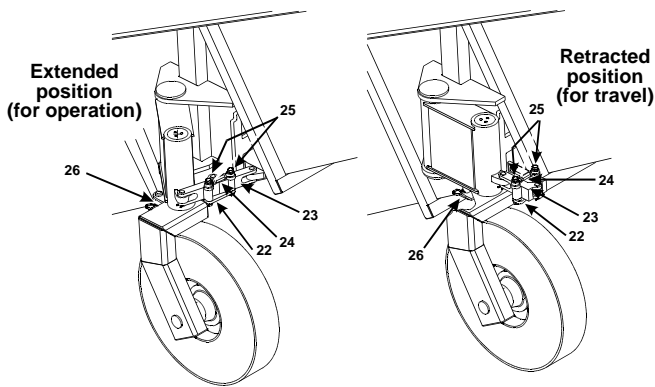
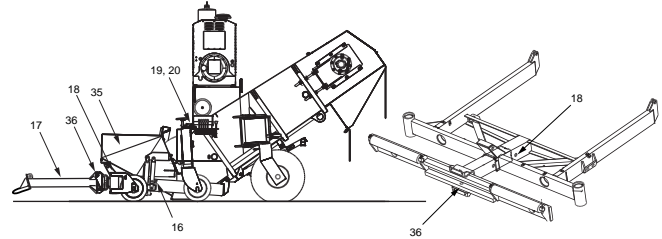
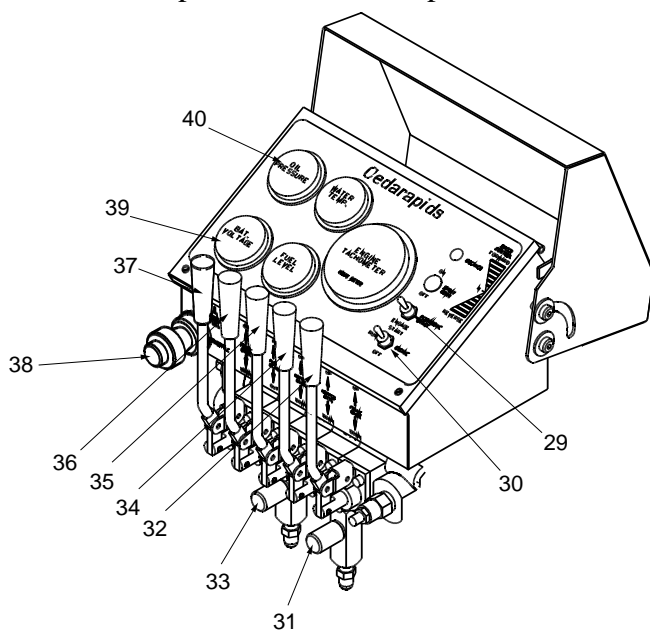

Figure 36
Figure 37
Figure 43
- Remove capscrews from red locking plate (27) on the locking linkage (23) Figure 36. Loosen jam nuts (25) on turnbuckle (24) Figure 36. Loosen turnbuckle and remove outboard capscrew in turnbuckle. Repeat this procedure for other side. Make certain to leave rear caster locking pins (26) disengaged Figure 36. Start paver and move forward until the casters are folded in. Shut off engine on paver. Install capscrew on turnbuckle and tighten turnbuckle and set jam nuts. Install red locking plate and secure capscrews. Repeat this procedure for other side. Now lock rear casters to prevent the casters from rotating.
- Raise dump hopper (35) and latch (19). Pin lock in place (20) Figure 37.
- Retract PUSH BEAM or truck hook (36). Install transport pin (18) Figure 37.
- Install towing tongue (17) Figure 37.
- Raise towing tongue to a position that will allow proper ground clearance once machine is hooked to towing vehicle. This is done by moving HOPPER RAISE lever to down position (35) Figure 37.
- Install pin in the hopper raise/lower lock (16) Figure 37.
- If backing or maneuvering the machine, raise the hopper chassis casters off the ground by raising the hopper and latching with the hopper lock (19) Figure 37. Use HOPPER RAISE cylinders to pull the hopper chassis up off the ground. Pin lock in place (20) Figure 37 or use the FRAME RAISE lever to raise the center of machine until the hopper chassis casters are off the ground.
- For Start-Up: With the PERMISSIVE START switch (29) in the override position, engage OFF/RUN/START switch (30) Figure 43.
- Verify correct oil pressure (40) and alternator output (39) Figure 43. (Consult engine owner's manual).
- Pull THROTTLE out to set operating speed at 2000 rpm (38) Figure 43.
- Fold out rear caster to the operating position. Raise front of machine by using the FRAME RAISE lever (32) figure 43. Remove capscrews from red locking plate (22) on the locking linkage (23) figure 36. Loosen jam nuts (25) on turnbuckle (24) figure 36. Loosen turnbuckle and remove outboard capscrew in turnbuckle. Repeat this procedure for other side. Make certain to leave rear caster locking pins (26) figure 36 engaged. Start paver and back up until the casters are folded out. Shut off paver engine. Install capscrew on turnbuckle and tighten turnbuckle and set jam nuts. Install red locking plate and secure capscrews. Repeat this procedure for other side. Now unlock rear casters to allow the casters to rotate for the paving mode.
- Adjust FRAME RAISE lever (32) Figure 43 to give machine a ground clearance of 1 to 2 inches.
- Extend PUSH BEAM or truck hook (36). Set PUSH BEAM lever in neutral to use as a spring, or set in the float position to use as a shock absorber.
To use as a shock absorber: Place the PUSH BEAM lever (36) Figure 37 in the float position. (Pull lever toward the operator until detent locks the valve in the float position). Adjust flow control valve (31) Figure 43 to set collapse rate of the push beam (or truck hook). This feature only works with PUSH BEAM lever in the float position. When the truck backs in, let the truck collapse the cylinders until the truck is in position. Place the PUSH BEAM lever in neutral to hold the truck in position. Fully extend PUSH BEAM or truck hook. Repeat this cycle for each truck.